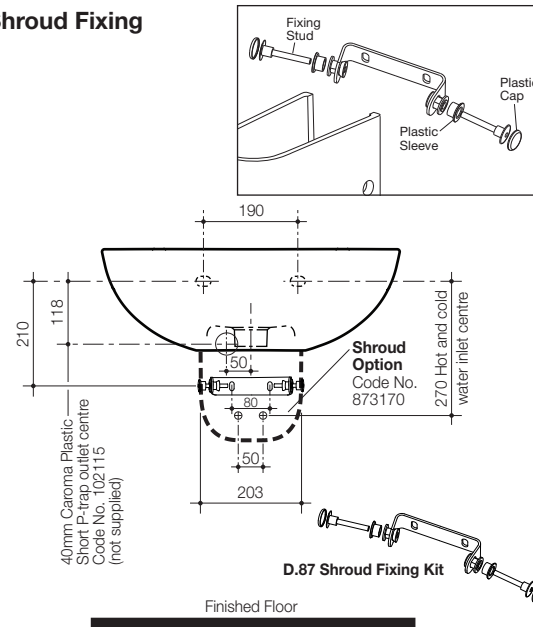

Fig. 4
- 1- Fix the D.87 Shroud Fixing Bracket (supplied) to the wall, as detailed in **Fig. 4**.